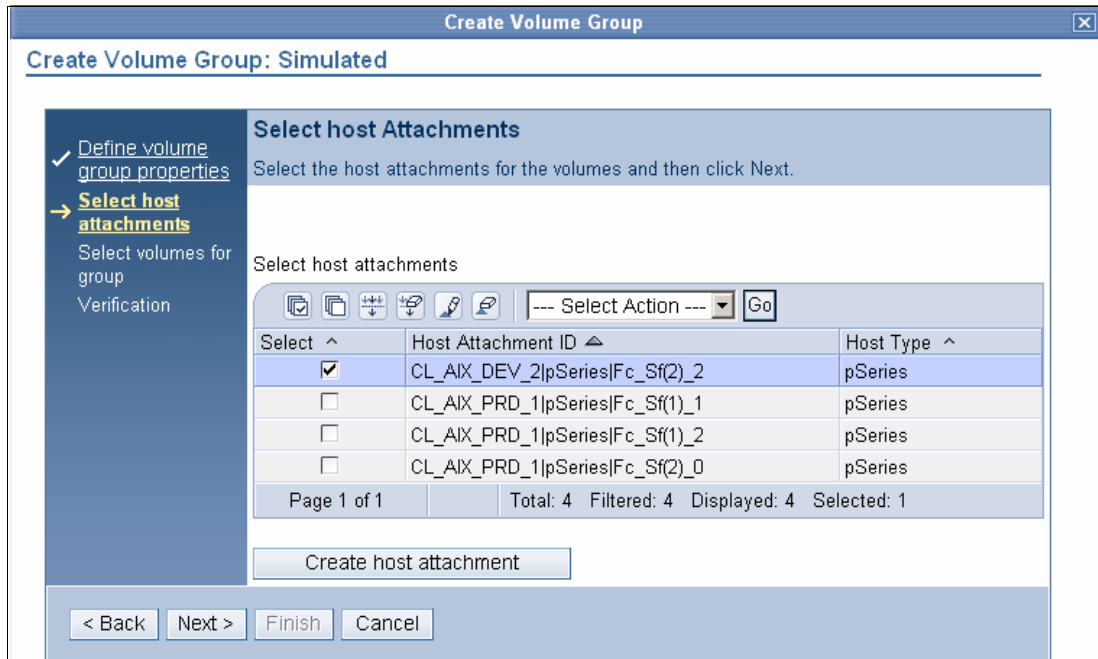

Figure 10-45 The Select host Attachments panel with an attachment selected
4. Select the host attachment you wish to associate the volume group with. See Figure 10-45.